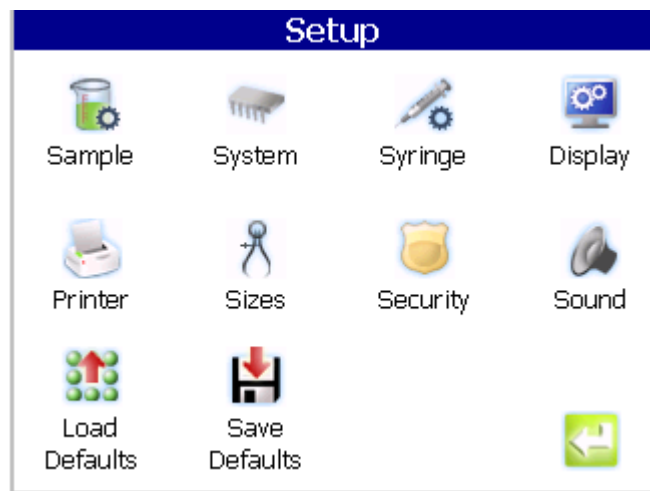

Fig 2-6 : Setup Screen
- 9) From the Main Screen, select the **Setup icon** to invoke the **Setup** screen, shown in Figure 2-6.